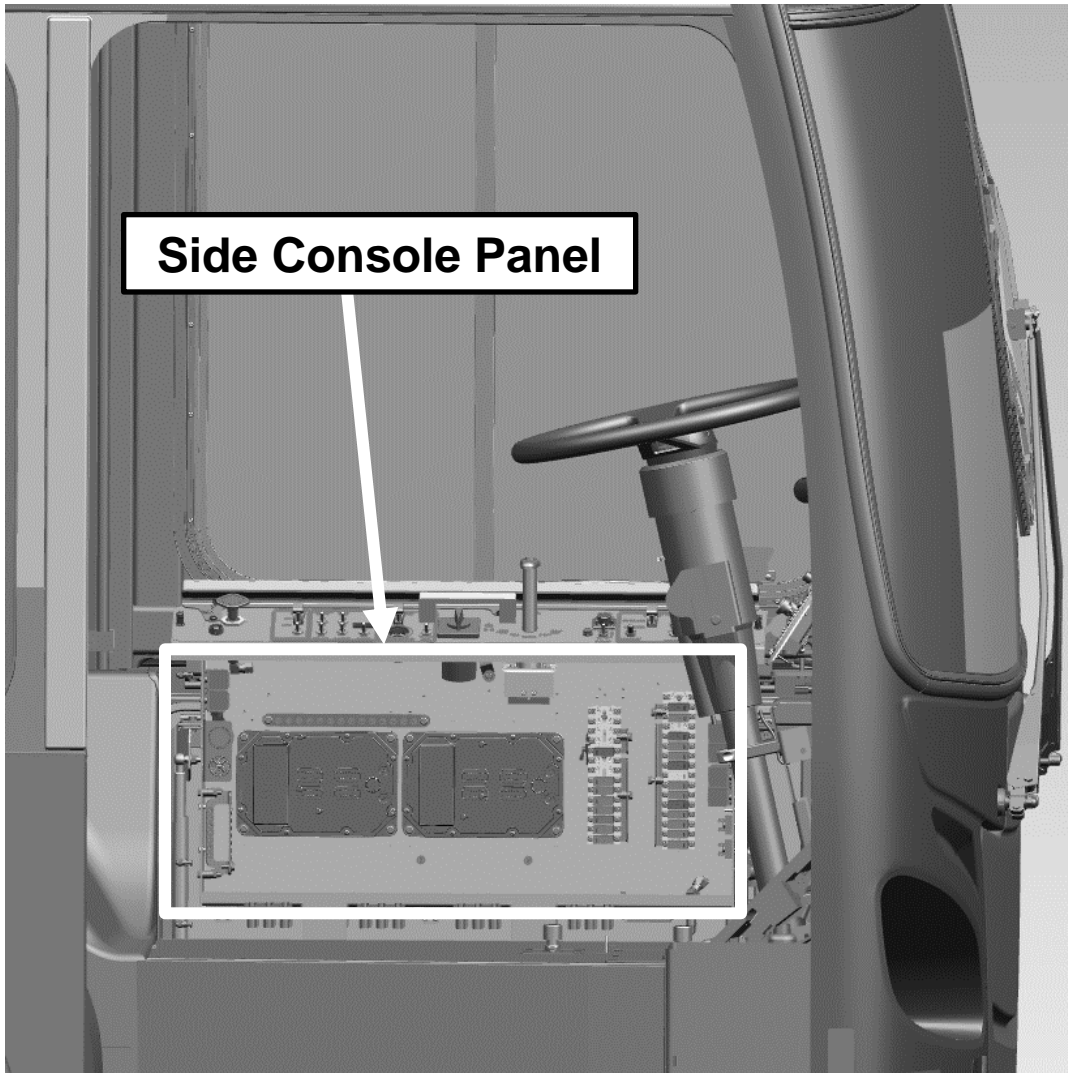

Figure 1 - Location of Side Console Panel
2. Gain access to the Side Console in the Driver’s area as shown in Figure 1.